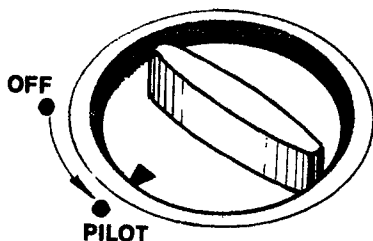

FIG. 10
4. Depress control knob while OFF, then turn back to PILOT/IGN. This should cause the spark from the piezo ignitor to light the pilot gas. Keep control knob depressed for ten (10) seconds before releasing. (Figure 10) If Pilot does not light, repeat Steps 2, 3 and 4 or use a match.